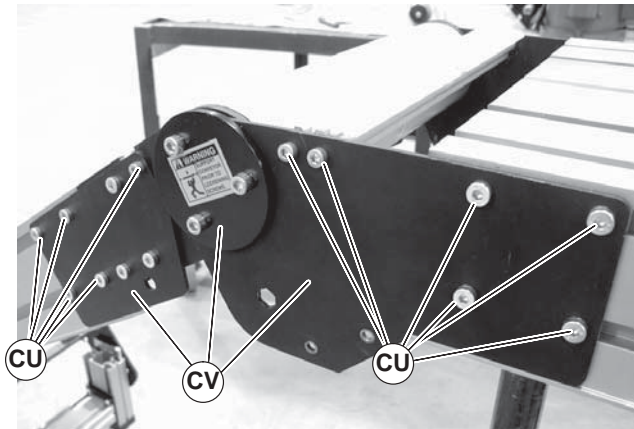

Figure 74
- On one side of knuckle, remove screws (Figure 74, item CU) and knuckle plate assembly (CV).